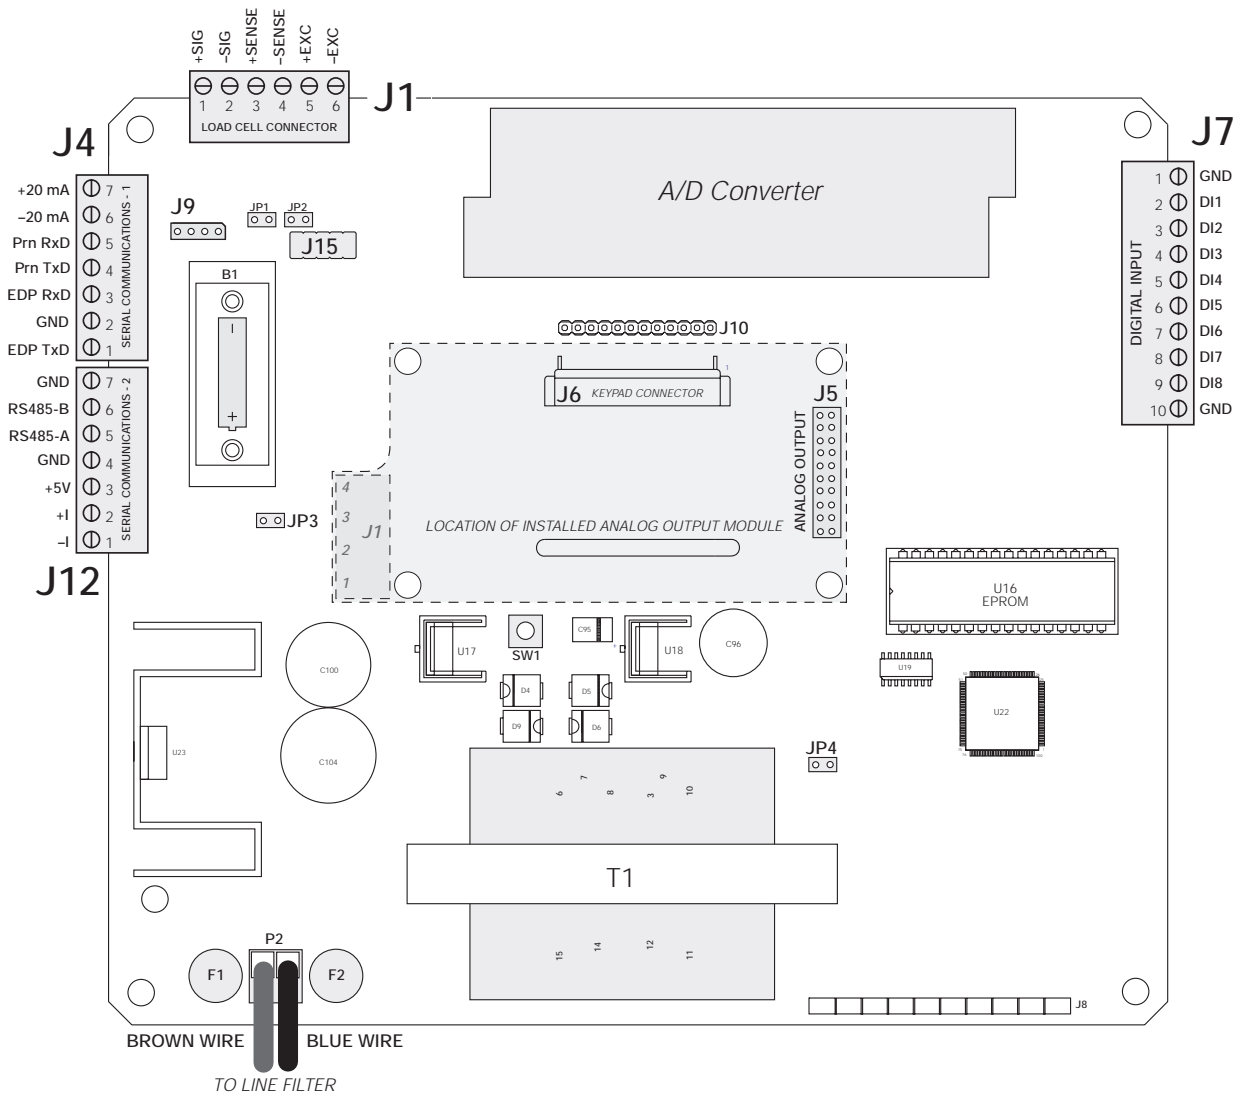

Figure 2-1. IQ plus 510 CPU and Power Supply Board, Version 2
Next, remove connector J1 from the board. The connector plugs into a header on the board (see Figure 2-1). Wire the load cell cable from the load cell or junction box to connector J1 as shown in Table 2-1. If using 6-wire load cell cable (with sense wires), remove jumpers JP1 and JP2 before reinstalling connector J1. For 4-wire installation, leave jumpers JP1 and JP2 on.
Mount the analog output module on its standoffs in the location shown in Figure 2-1 on page 4 and plug the module input into connector J5 on the IQ plus 510 board. Connect output cable to the analog output module as shown in Table 2-4, then reassemble the enclosure (Section 2.5).
2. Unplug connectors J1 (load cell cable), J4 and J12 (serial communications), J7 (digital inputs), J6 (keypad ribbon cable), and JP4 (setup switch). If an analog output board is installed, disconnect the analog output cable. See Figure 2-1 on page 4 for connector locations.